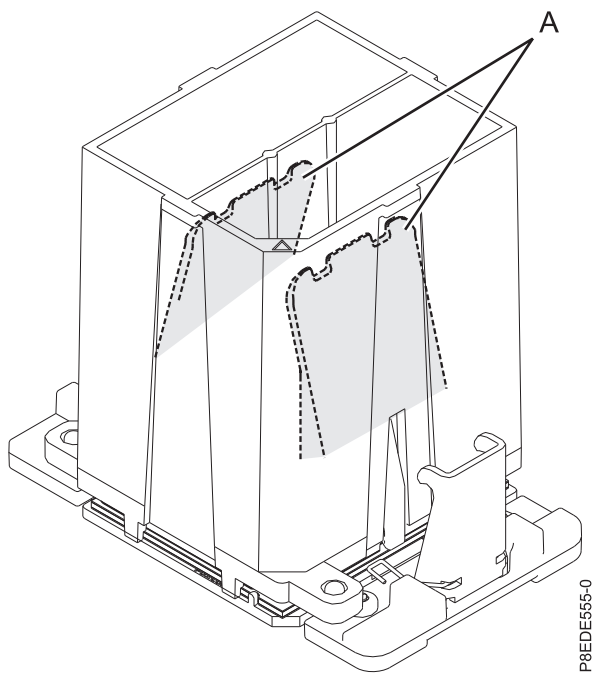

Figure 38. Removing the system processor module tool
- c. After the tool and system processor module holes and guide pins are properly aligned, squeeze and hold the two blue release tabs (**A**) together until a firm stop is reached, as shown in Figure 38. Then, lift the tool off the system processor module.